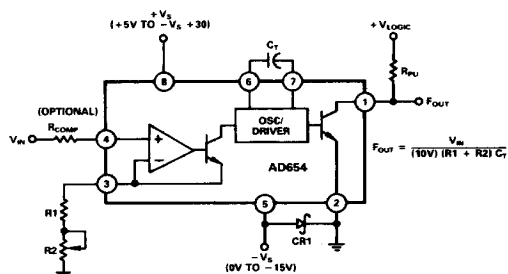
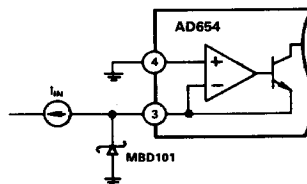

Figure 1. Standard V-F Connection for Positive Input Voltages
Figure 5. Input Protection
The AD654's block diagram appears in Figure 1. A versatile operational amplifier serves as the input stage; its purpose is to convert and scale the input voltage signal to a drive current in the NPN follower. Optimum performance is achieved when, at the full scale input voltage, a 1mA drive current is delivered to the current-to-frequency converter (an astable multivibrator). The drive current provides both the bias levels and the charging current to the externally connected timing capacitor. This "adaptive" bias scheme allows the oscillator to provide low nonlinearity over the entire current input range of 100nA to 2mA. The square wave oscillator output goes to the output driver which provides a floating base drive to the NPN power transistor. This floating drive allows the logic interface to be referenced to a level other than  $-V_S$ .
In the connection scheme of Figure 1, the input amplifier presents a very high (250M $\Omega$ ) impedance to the input voltage, which is converted into the proper drive current by the scaling resistors at pin 3. Resistors R1 and R2 are selected to provide a 1mA full scale current with enough trim range to accommodate the AD654's 10% FS error and the components' tolerances. Full scale currents other than 1mA can be chosen, but linearity will be reduced; 2mA is the maximum allowable drive. The AD654's positive input voltage range spans from  $-V_S$  (ground in single supply operation) to four volts below the positive supply. Power supply
As indicated by the scaling relationship in Figure 1, a 0.01 $\mu\text{F}$  timing capacitor will give a 10kHz full scale frequency, and 0.001 $\mu\text{F}$  will give 100kHz with a 1mA drive current. Good V/F linearity requires the use of a capacitor with low dielectric absorption (DA), while the most stable operation over temperature calls for a component having a small tempco. Polystyrene, polypropylene, or Teflon\* capacitors are preferred for tempco and dielectric absorption; other types will degrade linearity. The capacitor should be wired very close to the AD654. In Figure 1, Schottky diode CR1 (MBD101) prevents logic common from dropping more than 500mV below  $-V_S$ . This diode is not required if  $-V_S$  is equal to logic common.
The AD654 was designed to be used with a minimum of additional hardware. However, the successful application of a precision IC involves a good understanding of possible pitfalls and the use of suitable precautions. Thus  $+V_{IN}$  and  $R_T$  pins should not be driven more than 300mV below  $-V_S$ . Likewise, Logic Common should not drop more than 500mV below  $-V_S$ . This would cause internal junctions to conduct, possibly damaging the IC. In addition to the diode shown in Figures 1 and 2 protecting Logic Common, a second Schottky diode (MBD101) can protect the AD654's inputs from "below  $-V_S$ " inputs as shown in Figure 5. It is also desirable not to drive  $+V_{IN}$  and  $R_T$  above  $+V_S$ . In operation, the converter will exhibit a zero output for inputs above  $(+V_S - 3.5V)$ . Also, control currents above 2mA will increase nonlinearity.